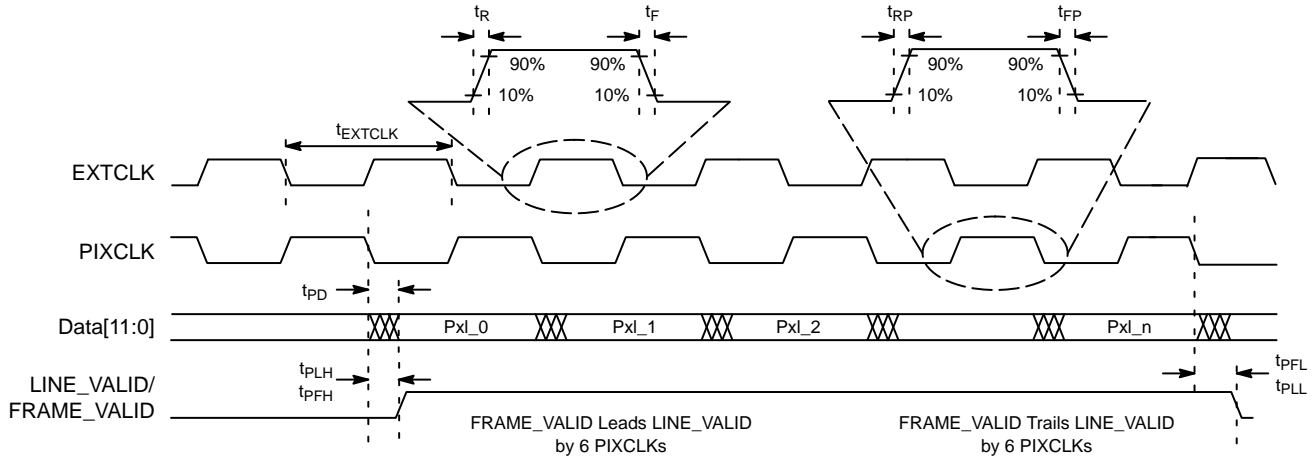

Figure 15. I/O Timing Diagram
edge of PIXCLK. The launch edge of PIXCLK can be configured in register R0x3028. See Figure 15 and Table 5 for I/O timing (AC) characteristics.